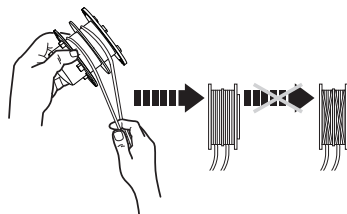

Fig. 17
7. Wind all the trimming lines firmly around the trimming spool (10d) in direction of the arrow (Fig. 17).